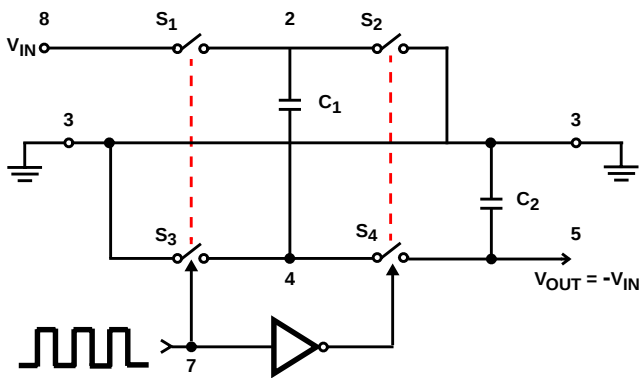
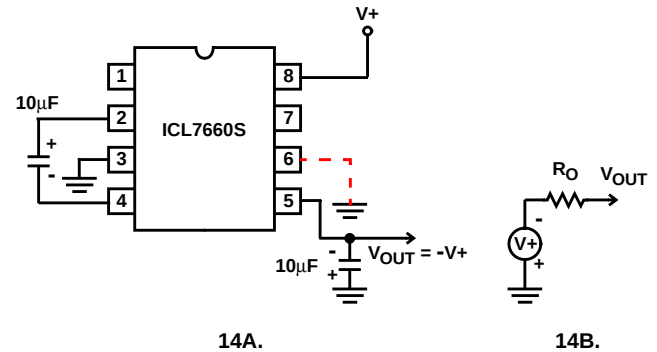
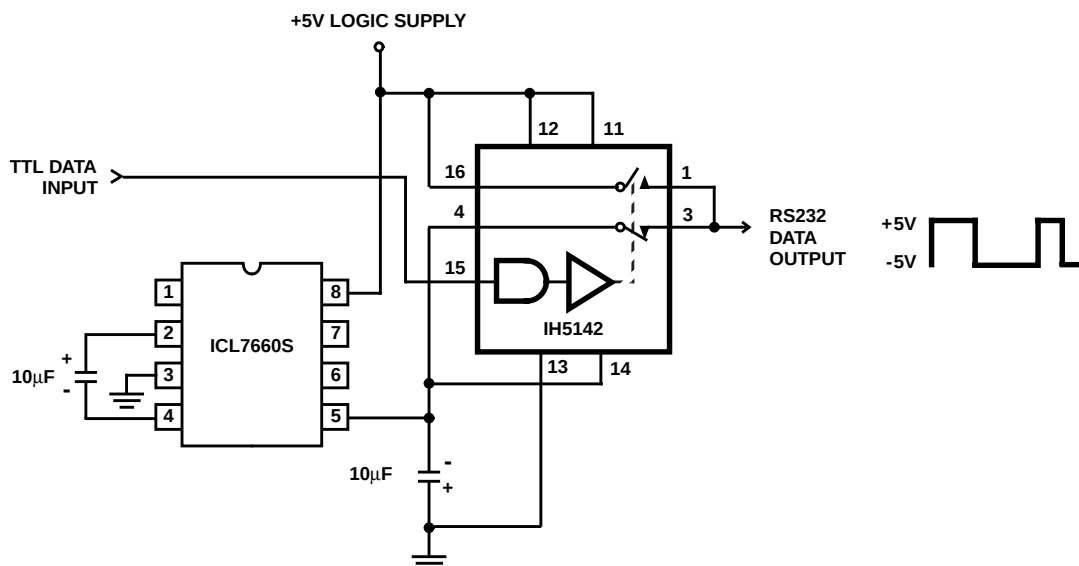

FIGURE 13. IDEALIZED NEGATIVE VOLTAGE CONVERTER
FIGURE 14. SIMPLE NEGATIVE CONVERTER AND ITS OUTPUT EQUIVALENT
FIGURE 21. RS232 LEVELS FROM A SINGLE 5V SUPPLY
The ICL7660S contains all the necessary circuitry to complete a negative voltage converter, with the exception of 2 external capacitors which may be inexpensive 10μF polarized electrolytic types. The mode of operation of the device may be best understood by considering Figure 13, which shows an idealized negative voltage converter.
In the ICL7660S, the 4 switches of Figure 13 are MOS power switches; S_1 is a P-Channel devices and S_2 , S_3 and S_4 are N-Channel devices. The main difficulty with this approach is that in integrating the switches, the substrates of S_3 and S_4
where V_1 and V_2 are the voltages on C_1 during the pump and transfer cycles. If the impedances of C_1 and C_2 are relatively high at the pump frequency (refer to Figure 13) compared to the value of R_L , there will be substantial difference in the voltages V_1 and V_2 . Therefore it is not only desirable to make C_2 as large as possible to eliminate output voltage ripple, but also to employ a correspondingly large value for C_1 in order to achieve maximum efficiency of operation.
The majority of applications will undoubtedly utilize the ICL7660S for generation of negative supply voltages. Figure 14 shows typical connections to provide a negative supply where a positive supply of +1.5V to +12V is available. Keep in mind that pin 6 (LV) is tied to the supply negative (GND) for supply voltage below 3.5V.
The output characteristics of the circuit in Figure 14 can be approximated by an ideal voltage source in series with a resistance as shown in Figure 14B. The voltage source has a value of $-(V^+)$. The output impedance (R_O) is a function of the ON resistance of the internal MOS switches (shown in Figure 13), the switching frequency, the value of C_1 and C_2 , and the ESR (equivalent series resistance) of C_1 and C_2 . A good first order approximation for R_O is:
Figure 21 combines the functions shown in Figure 14 and Figure 20 to provide negative voltage conversion and positive voltage doubling simultaneously. This approach would be, for example, suitable for generating +9V and -5V from an existing +5V supply. In this instance capacitors C_1 and C_3 perform the pump and reservoir functions respectively for the generation of the negative voltage, while capacitors C_2 and C_4 are pump and reservoir respectively for the doubled positive voltage. There is a penalty in this configuration which combines both functions, however, in that the source impedances of the generated supplies will be somewhat higher due to the finite impedance of the common charge pump driver at pin 2 of the device.